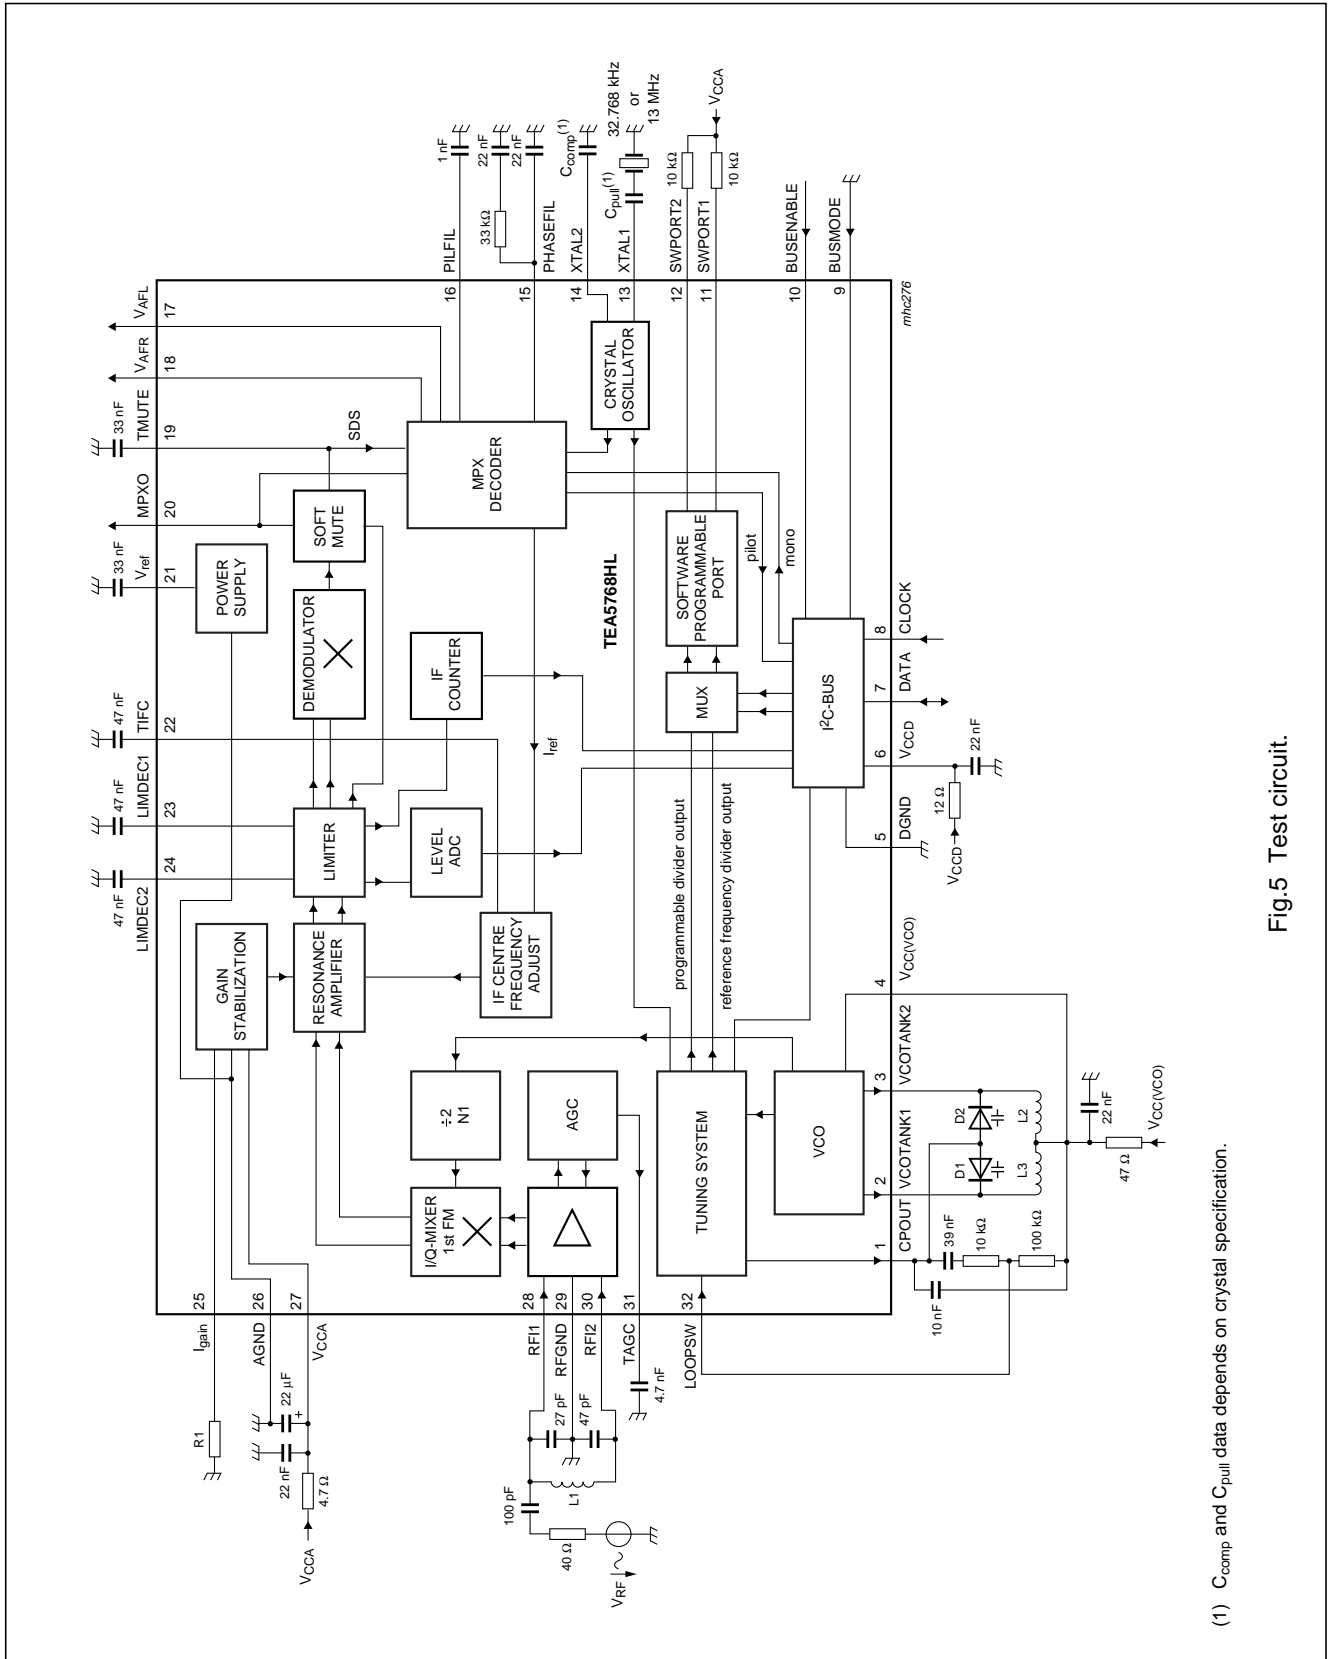

Fig.5 Test circuit.
2. V_{RF} in Fig.5 is replaced by $V_{\text{RF1}} + V_{\text{RF2}}$. The radio is tuned to 98 MHz (HIGH side injection).